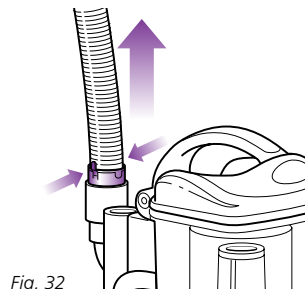

Fig. 32
- Detach the stretch hose from the back of the portable *Lift-Away*® canister by squeezing the tabs together and pulling up. (Fig. 32) Straighten out the hose and look inside for blockages.